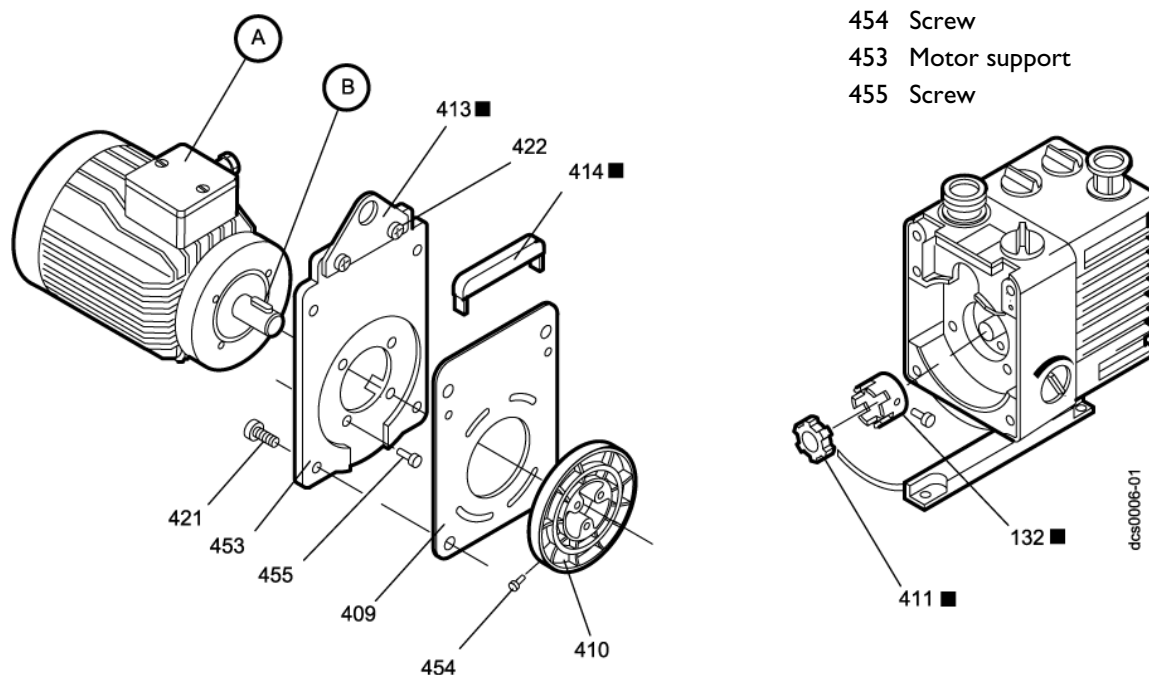

Figure 11 - Fit the new motor to the pump
Refer to Figure 11. Use the four screws (455) to fit the motor support (453) to the motor.